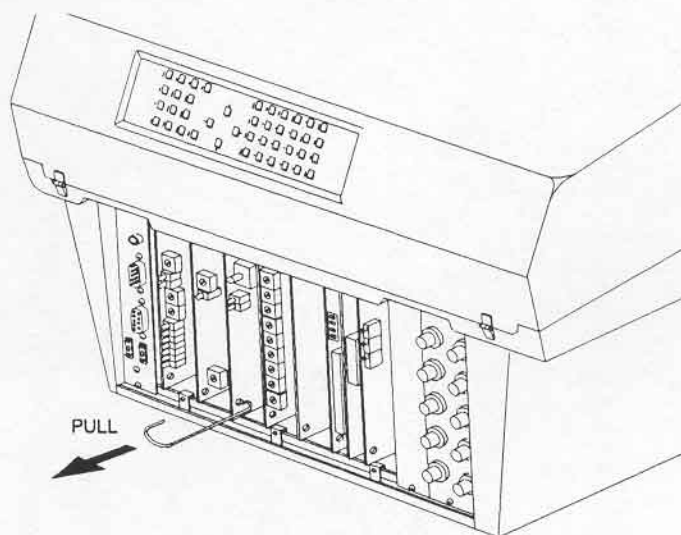

Figure 5-11. Card Rack Module Removal
- To remove a module from the card rack use the printed circuit board extraction tool supplied in the tool kit. Insert the hook of the extraction tool into the hole located at the top and/or bottom of the module. Pull the module from the projector. See Figure 5-11.